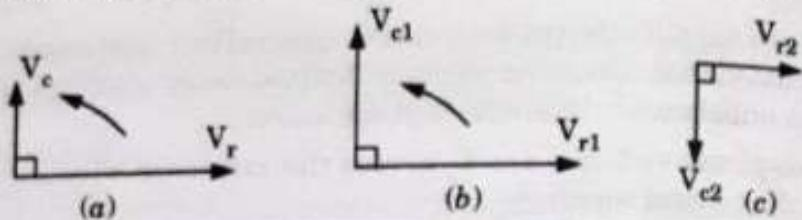

Fig. 1.19.1. (a) Two-phase unbalanced voltage, (b) Positive sequence voltages and (c) Negative-sequence voltages.
- These unequal voltages are in time quadrature as shown in Fig. 1.19.1(a).
- According to the method of symmetrical components, V_r and V_c are resolved into positive and negative sequence components as shown in Fig. 1.19.1(b) and (c) respectively.
- In Fig. 1.19.1(a), \bar{V}_r is horizontal and \bar{V}_c leads it by 90° . In phasor form, these voltages can be written as